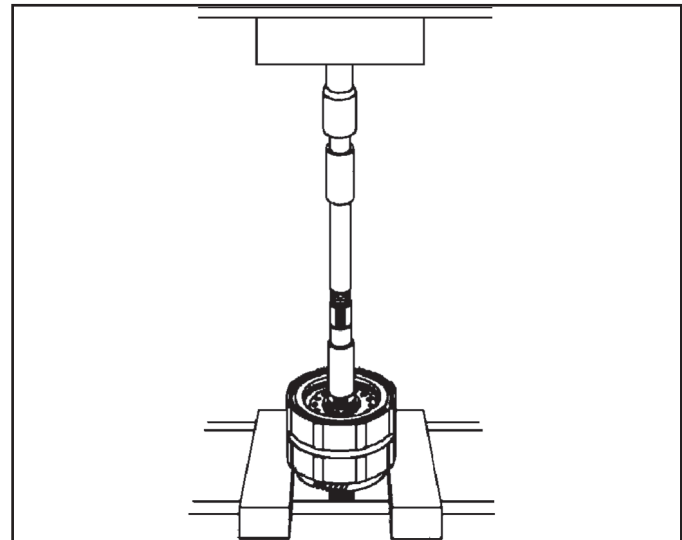

Figure 87
6. Support the 2nd/3rd clutch drum housing on a press with the threaded side of the shaft facing up. Be sure that the press is on the drum and not the gear. While holding the bottom end of the shaft, press the shaft off the 2nd/reverse needle bearing race, thrust washer and drum (See Figure 87).